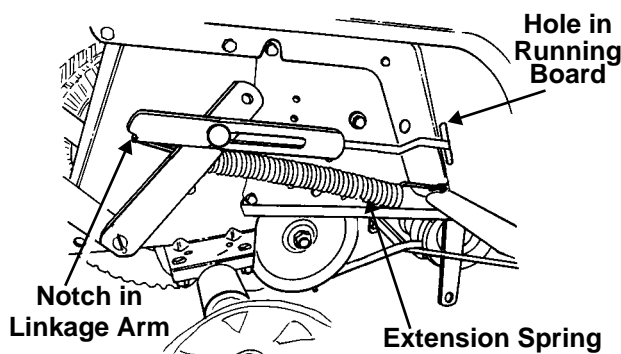

Figure 12
- Using a piece of wire, hook one end of extension spring in the hole on the running board and the other end of spring to the notch in the linkage rod. See Figure 12. (On units with a one piece fender, remove one bolt which secures the bracket to the running board, closest to the frame, in order to attach the spring.)
NOTE: Figure 12 is shown with the rear wheel removed for clarity. It is not necessary to remove for assembly.